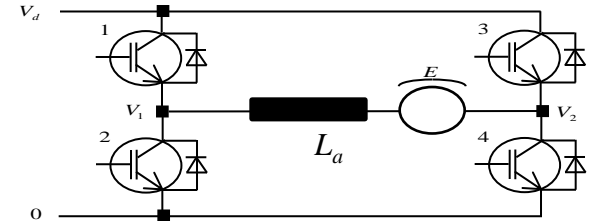

Fig 1
- c) Calculate the rms-current and the average current through one rectifying diode (see figure 1). Calculate the rectifier diode losses. The diode threshold voltage is  $0,9 \text{ V}$  and the differential resistance is  $2.0 \text{ mohm}$ . (2 p.)